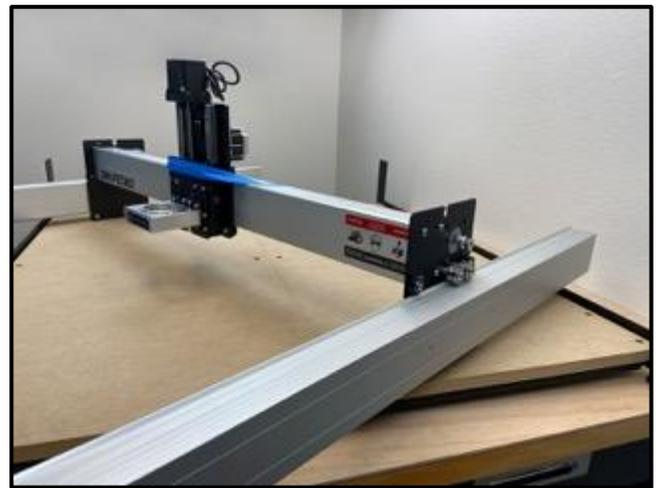

Figure 4-8
1. Slide the integrated v-rails of the Y2-extrusion rail between the four (4) V-wheels of the Y2-carriage. Center the rail with the carriage plate. See *Figure 4-8*.